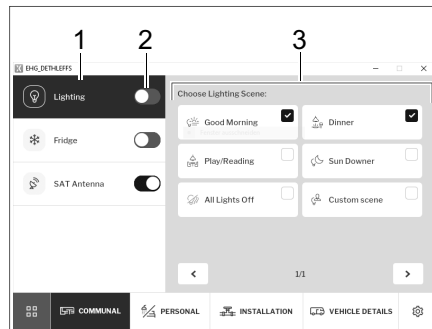

Fig. 270 Lighting
- Use the switch to turn the lighting (Fig. 270,2) on or off.
- Click on the *Lighting* (Fig. 270,1) button. Select a lighting mode in the control panel (Fig. 270,3).